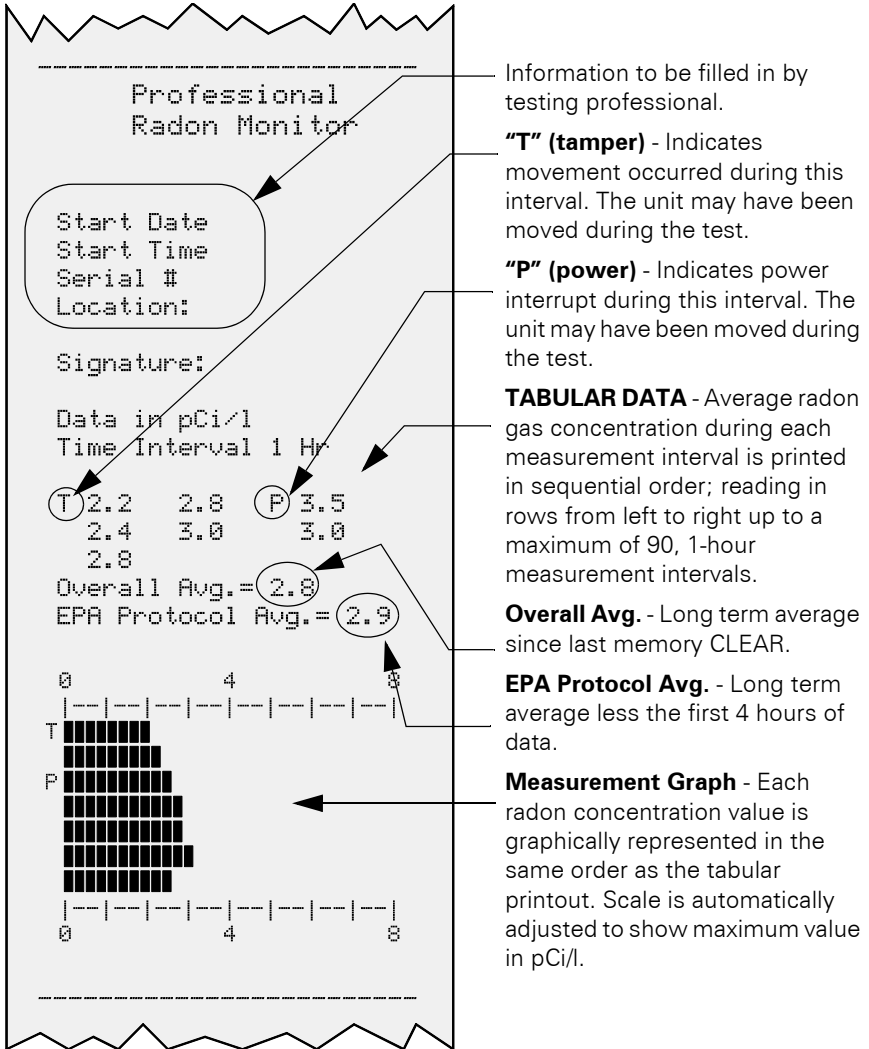

Figure 4-1. Example Thermal Printer Report
Figure 4-1 shows measurement results displayed in a sample typical thermal printer report.
- To interpret report results, see Figure 4-1 on page 16. Data between the header and footer in the editing screen is the same as is printed on thermal printer paper.